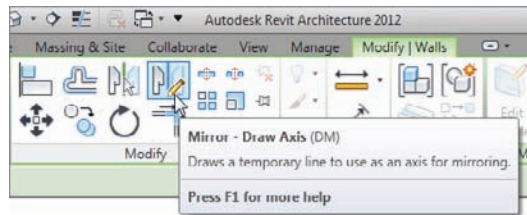

FIGURE 1.24 The Ribbon adds the appropriate commands.
2. When the walls are selected, you'll see the Modify | Walls tab appear. On the Modify panel, click the Mirror – Draw Axis button, as shown in Figure 1.24.